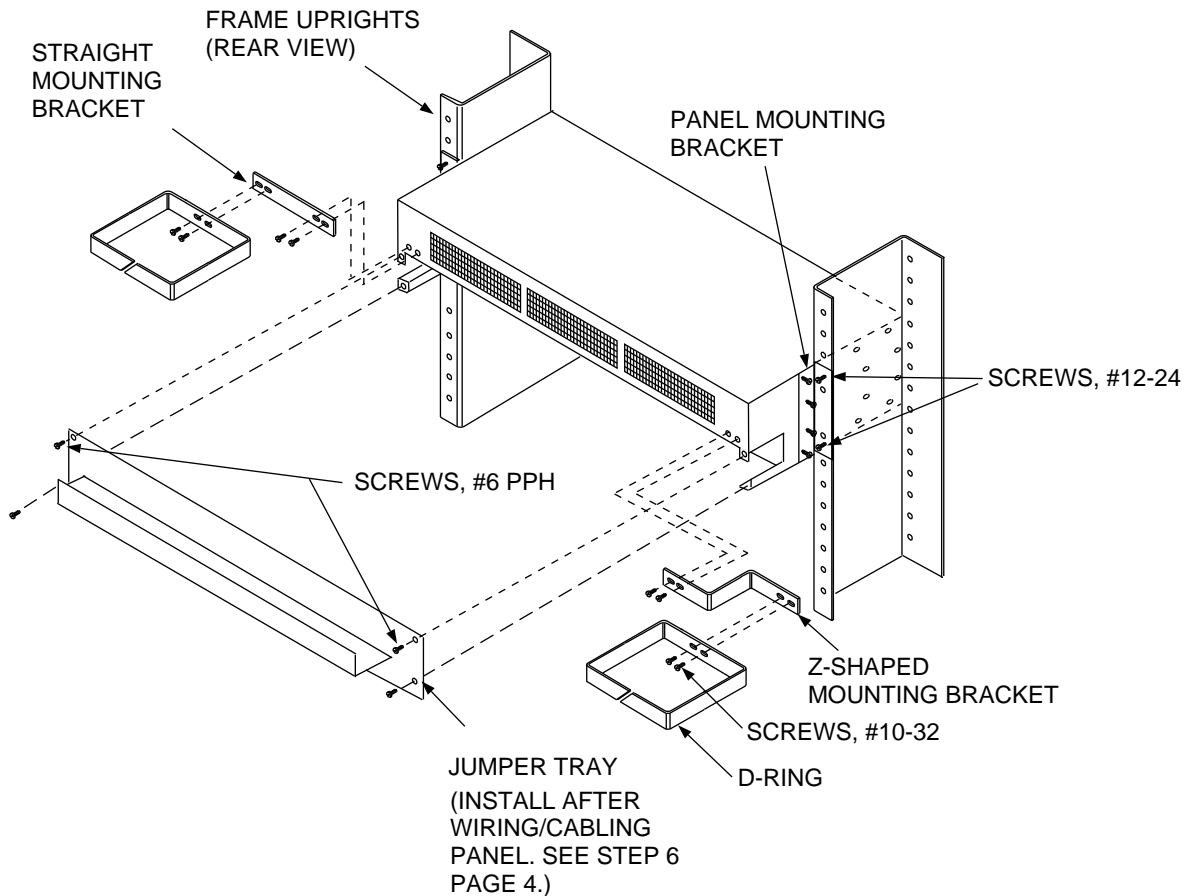

Figure 2. 56- and 60-Circuit Rear/Rear Hardwired Bantam Panel to Rear of Frame
Panel mounting brackets are factory-mounted at the 5-inch (127 mm) recessed location. Refer to the following procedures and Figure 2 to mount the panel on the rear of the frame:
Figure 2 shows both types of mounting brackets. Select the type of D-Ring mounting bracket that best matches the existing hardware.
6. Replace horizontal cover/jumper tray over cabling terminals using four #6 Phillips pan-head screws (see Figure 2 on page 3).